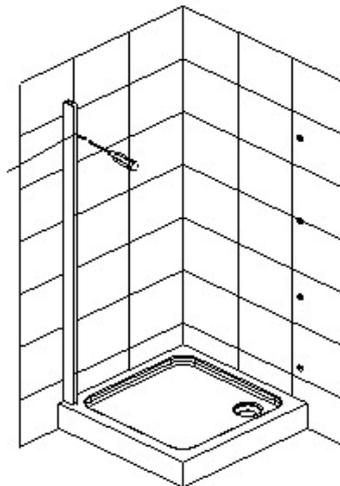

Figure 3
3. Fix the side panel wall profile (21) with the rubber washers (9) and ST4x30 screws (8). Press the screw cap (7) over the screws as shown in figure 3.